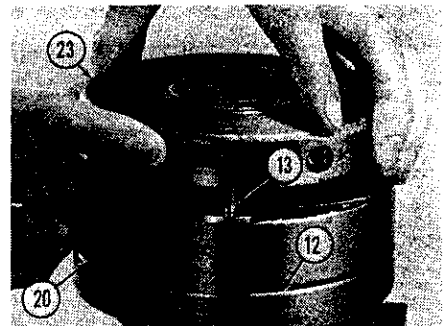
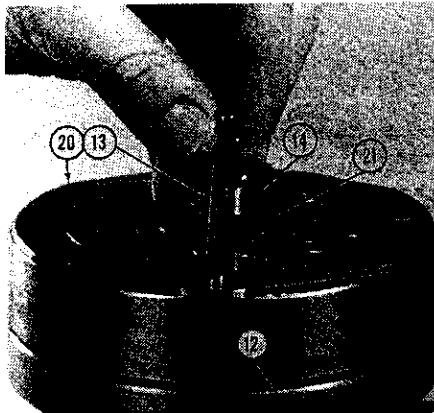
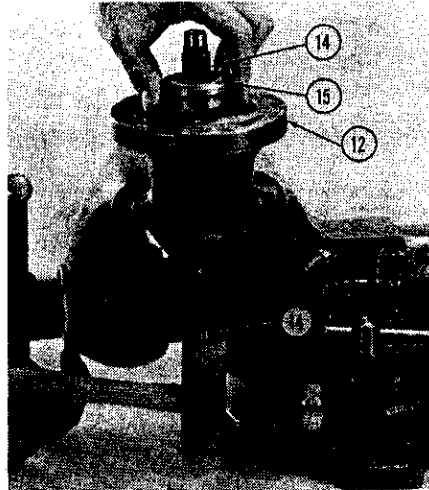

Fig. 52—Lifting pressure plate (23) from dowel pins (13).
Fig. 53—Removing dowel pins (13) from motor ring and housing. Then, remove the snap ring (21) retaining rotor to actuator shaft (14).
Fig. 55—Tap on outer end of actuator shaft (14) to bump bearing support (15) from the housing (12).
Clamp flat portion of hydramotor housing in a vise and remove cover (30—Fig. 46) by pulling upward with a twisting motion. Remove the pressure plate spring (27), then remove cap screws (51) and lift off the pressure plate (23) as shown in Fig. 52. Remove the dowel pins (Fig. 53), then remove snap ring (21) from shaft (14) with suitable snap ring pliers and screwdriver; discard the snap ring. Pull pump ring and rotor assembly (20) up off of shaft as shown in Fig. 54. Tap outer end of shaft with soft faced mallet as shown in Fig. 55 until bearing support (15) can be removed, then carefully remove the actuator shaft assembly from housing as shown in Fig. 57. Note: As the actuator shaft and control valve spool assembly is a factory balanced unit and is not serviceable except by renewing